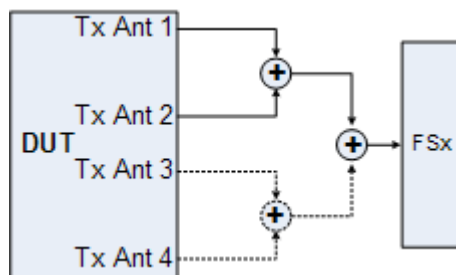

Fig. 8-8: Hardware setup
A typical hardware test setup is shown in figure 8-8. Note that the dashed connections are only required for MIMO measurements on 4 Tx antennas.
- Use a combiner to combine antennas for each carrier (as shown in figure 8-8).